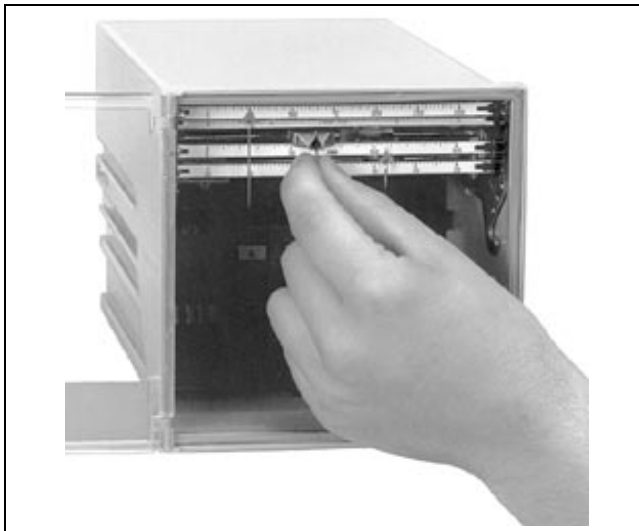

Fig. 8 Fitting the fibre pen / print unit
2. Fit fibre pen / print unit according to fig. 8.